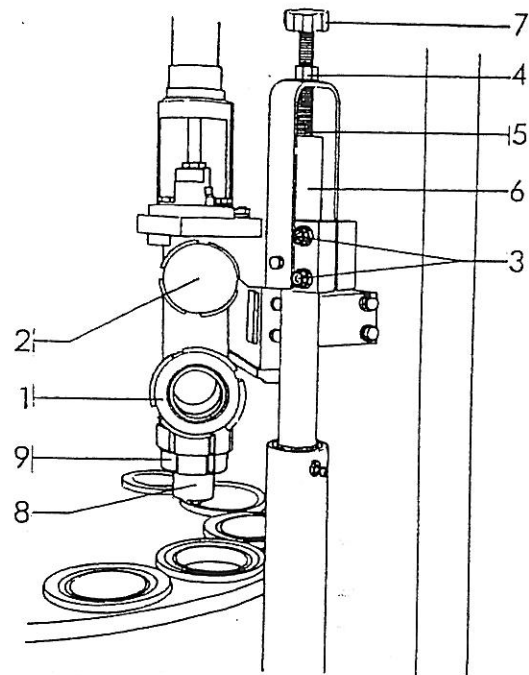

Fig.10.1.7
To dispense one flavour only, connect the supply pipe to connection 1 fig. 10.1.7 and close connection 2 fig. 10.1.7 with the special cap supplied.
If two flavour ice-cream is to be dispensed, remove cap 2 fig. 10.1.7 and connect the second feed pipe.
Loosen nuts 3 and 4 fig. 10.1.7;
- Position the station with screw 5 fig. 10.1.7 resting on column 6 fig. 10.1.7;
- Turn knob 7 fig. 10.1.7 to define the height precisely;
To use the station as a cup cycle it is necessary to replace nozzle 8 fig. 10.1.7 with the one supplied;
- loosen and remove ring nut 9 fig. 10.1.7 and nozzle 8 fig. 10.1.7;
- Connect the tank to the station with the pipe to the fittings 1 fig. 10.1.7;
- Using the cap supplied, close connection 2 fig. 10.1.7.